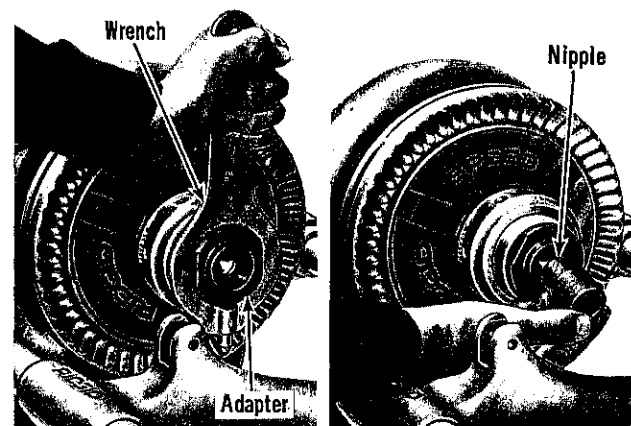

Figure 25. Installing Nipple Chuck Adapter and Nipple.
4. Select proper size Nipple Chuck Adapter and screw into nipple chuck (Fig. 25) by hand. Tighten with wrench.
5. Screw nipple (Fig. 25) threaded on one end into adapter by hand. Ream and thread other end.